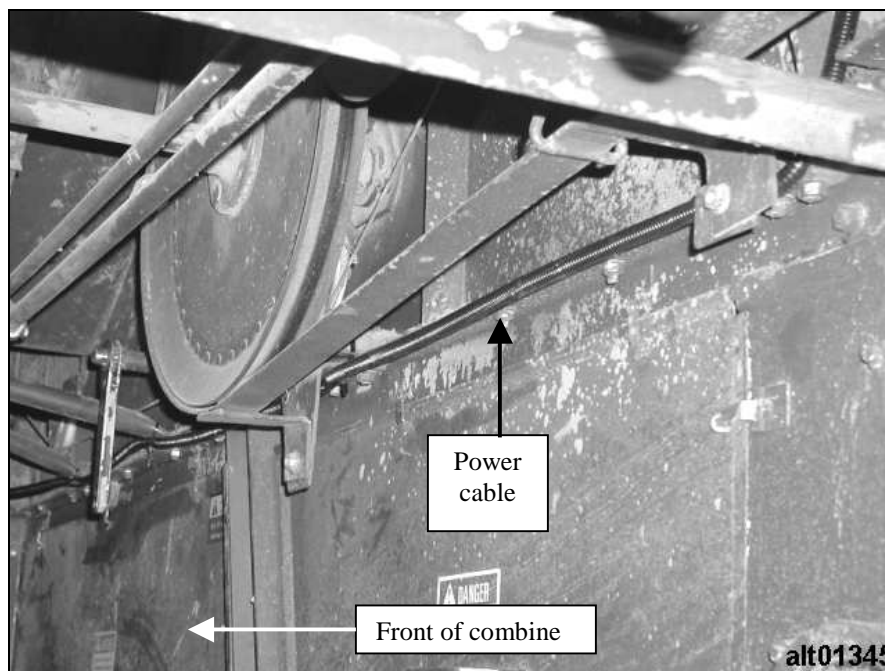

Figure 4. Power cable routed to distribution cable
2. Route cable forward to distribution cable along left side of combine as shown in Figure 4.